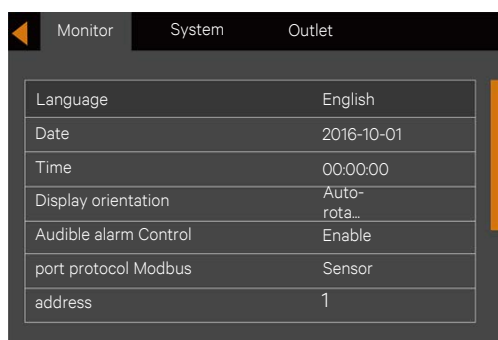

Figure 5-15 Monitor interface
2. Press the  key to move the cursor to 'Monitor', see Figure 5-15.